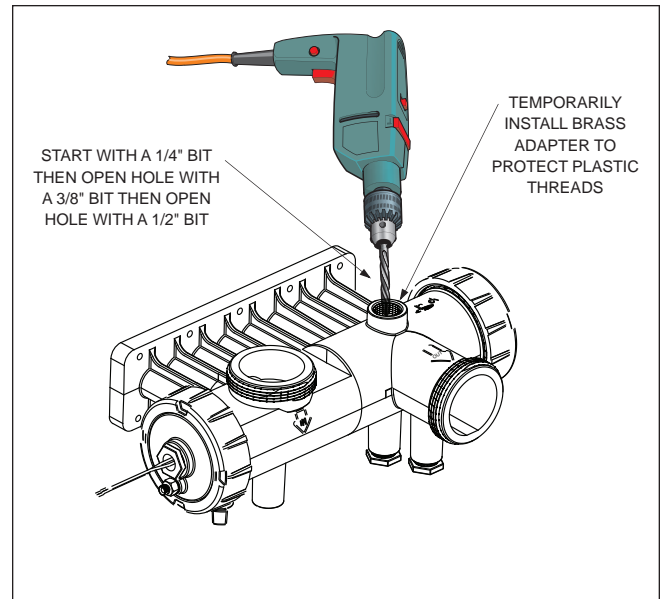

Figure 16. Drill Hole for Pressure Relief Valve
2. Using the countersink in the center of the blind hole as a guide, drill a 1/4 inch hole through the plastic (see Figure 16).